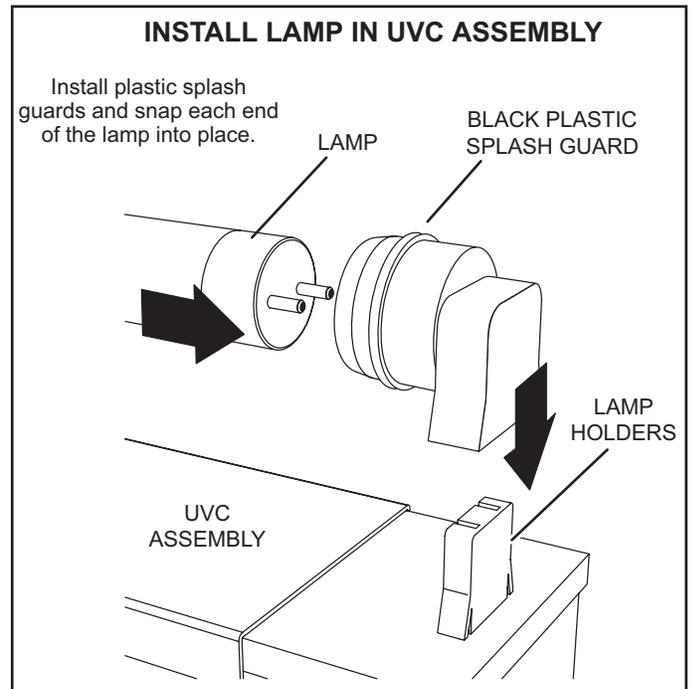

FIGURE 28
- 5 - Remove and retain the (3) mounting screws securing the UVC assembly. Carefully remove the complete UVC assembly out through the blower access door. See FIGURE 28.